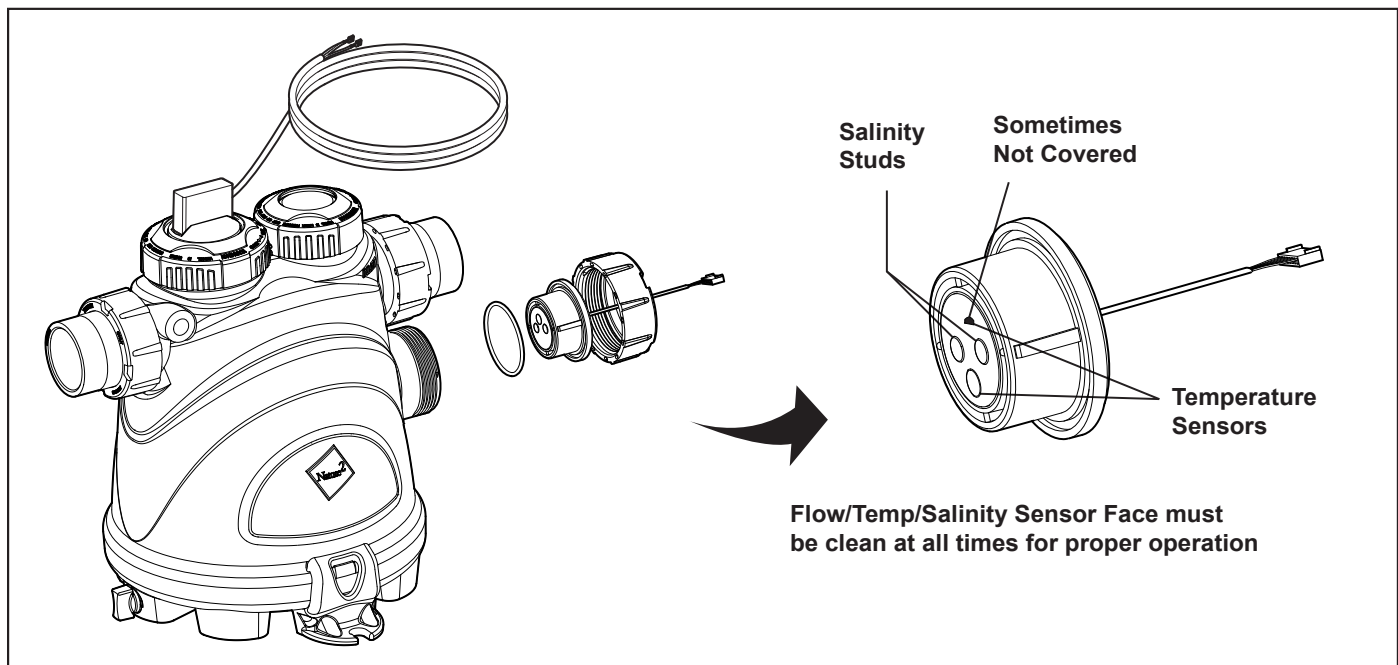

Figure 9. Vessel Installation and Flow/Temp/Salinity Sensor
- Mount as shown in Figure 9. This will result in the most reliable operation.
2. Install the flow/temp/salinity sensor into the vessel (see Figure 9).